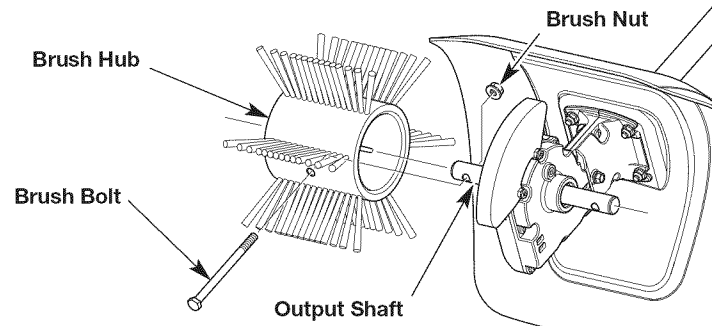

Fig. 6
4. Remove the brush bolt and brush nut. Slide the brush hub off the output shaft (Fig. 6).
2. Slide a new brush hub onto an output shaft (Fig. 6).
3. Rotate the brush hub to align the hole in the brush hub with the hole in the output shaft (Fig. 6).
4. Insert a brush bolt through the aligned holes. Place a brush nut onto the brush bolt (Fig. 6).